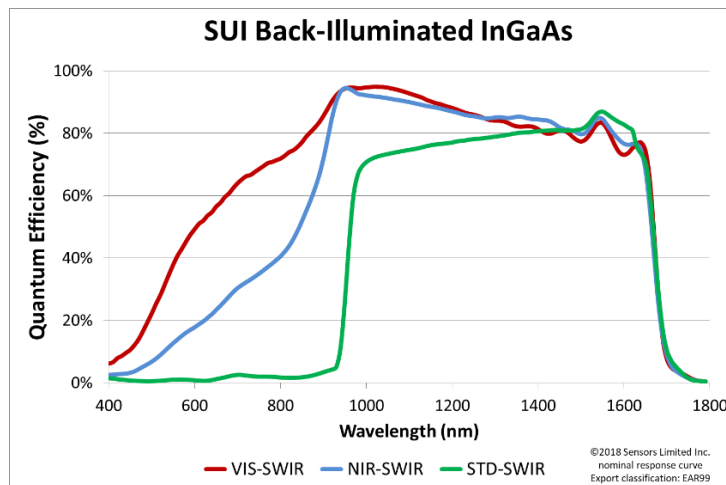

Figure 8. Typical Quantum Efficiency of SUI backside illuminated FPAs.
The SUI CSX camera family uses the SU640AB4-1.7T1 Indium Gallium Arsenide (InGaAs) focal plane array (FPA). These FPAs have 640 x 512 pixels on a 12.5 μm pitch. The FPAs consist of an InGaAs photodiode array hybridized to a CMOS readout using indium bump bonds. The photodiode array is a backside illuminated device (where light first passes through the substrate before interacting with the sensing media) with Figure 8 showing the typical quantum efficiency (QE) for 3 possible wavelength variations offered (see www.sensorsinc.com for current available versions of this model). .. For Visible-InGaAs and NIR/SWIR, the substrate is thinned to allow shorter wavelength light to reach the light sensitive region of the photodiode. The blocking InP substrate media is removed with respect to diode operation in a separate semiconductor fabrication process. Photon detection is performed directly by the InGaAs layer in photovoltaic operation. A converting phosphor or similar layer is not used. *Note: The InP substrate layer attenuates but does not completely block shorter wavelengths – when strong light sources emit or reflect in the camera’s field of view, additional steps may be needed to block the unwanted signals from being detected.*